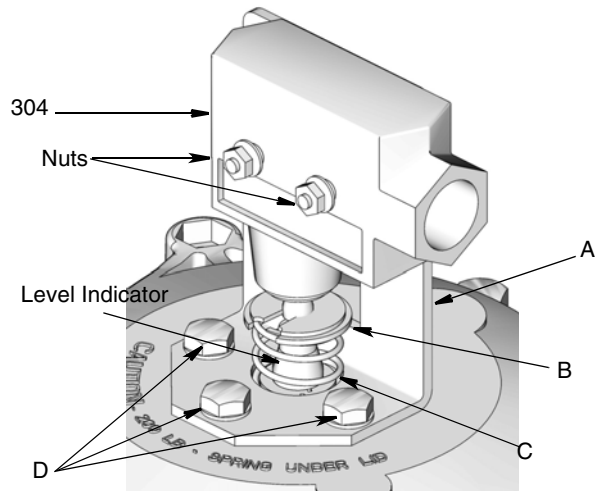

FIG. 12:
Refer to FIG. 12 for reference numbers used in the following instructions.
3. Remove the nuts attaching the low-level switch (304) to the bracket (A) (FIG. 12).
4. Remove the low-level switch (304) from the bracket (A).
5. Remove the retainer ring (B) and spring (C).
6. Remove the three screws (D) and the bracket (A).
1. Attach the bracket (A) to the grease reservoir cover using the three screws (D) (FIG. 12).
2. Place the spring (C) (FIG. 12) over the tip of the level indicator.
3. Compress the spring (C) and place the retainer ring (B) between the spring and the tip of level indicator (FIG. 12).
4. Attach the low-level switch (304) to the bracket (A) with the nuts (FIG. 12).